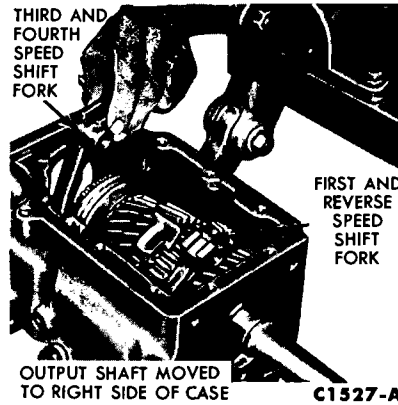

FIG. 7—Removing Shift Forks from Case
16. Move the output shaft to the right side of the case to provide clearance for the shift forks. Rotate the fork as shown in Fig. 7, then lift them from the case.